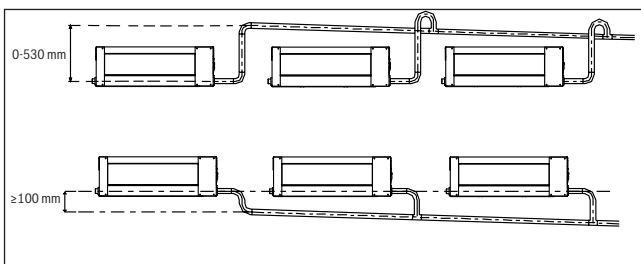

Fig. 29.
2. Attach the mouth of the drain hose to the unit's outlet pipe. Sheath the mouth of the hose and clip it firmly with a pipe clamp. (Fig. 29)
When connecting multiple drainpipes, install the pipes as illustrated in Fig. 29.